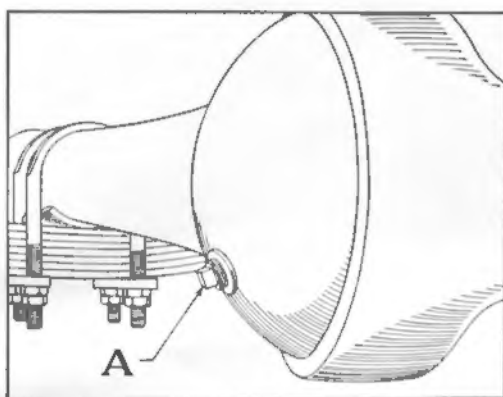

Figure 11
The oil should always be kept to the level of the filler plug (A), Figure 11. Drain the oil and replace